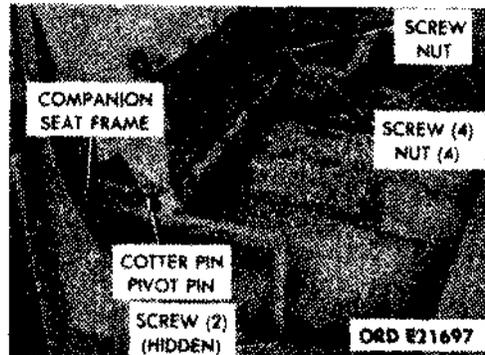

Figure 2-219.6. Companion seat removal.
a. *Removal (fig. 2-219.6).* Lift up the companion seat cushion. Remove the two screws securing the companion seat frame legs to the floor, remove the four safety nuts and screws securing the seat frame to the driver's seat base, and remove the seat.
b. *Installation (fig. 2-219.6).* Place the companion seat on the floor. Secure the seat frame to the driver's seat base with four hex-head screws and safety nuts. Secure the seat frame legs to the floor with two hex-head split lockwasher screws.
a. *Removal (fig. 2-219.6).* Remove the two cotter pins and the pivot pins of the two safety nuts and screws holding the seat cushion hinges to the seat frame. Lift up the seat cushion. Remove the safety nut and screw holding the cushion to the seat cushion link, and remove the seat cushion. Pull up and pull out the bottom rear edge of the backrest cushion, and pull the cushion from the backrest frame.
b. *Installation (fig. 2-219.6).* Seat the top rear edge of the backrest cushion under hooks on the top edge of the backrest frame. While pulling up on the cushion, press the cushion back to seat the lower edge in the frame. Install the two pivot and cotter pins or two hex-head screws and safety nuts through the seat and frame hinge to secure the seat. Lift up the seat and secure the cushion to the seat cushion link with a hex-head screw and safety nut.